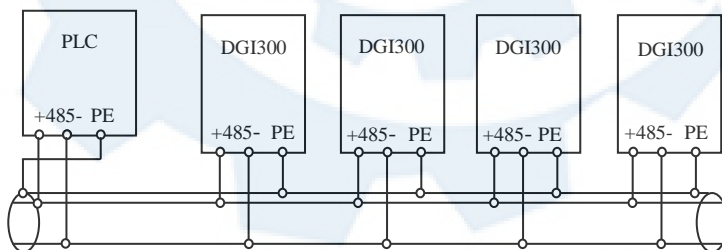
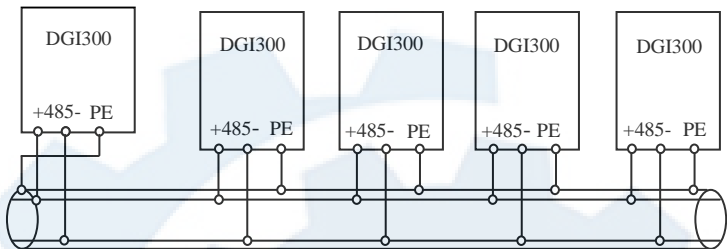

Fig. 3-12 PLC communication with multi inverters
Fig. 3-13 Multi inverters communication
(3) Multi inverters can communicate via RS485, controlled by PC/PLC as a Master shown as Fig.3-12. It also can be controlled by one of inverters as a Master shown as Fig.3-13